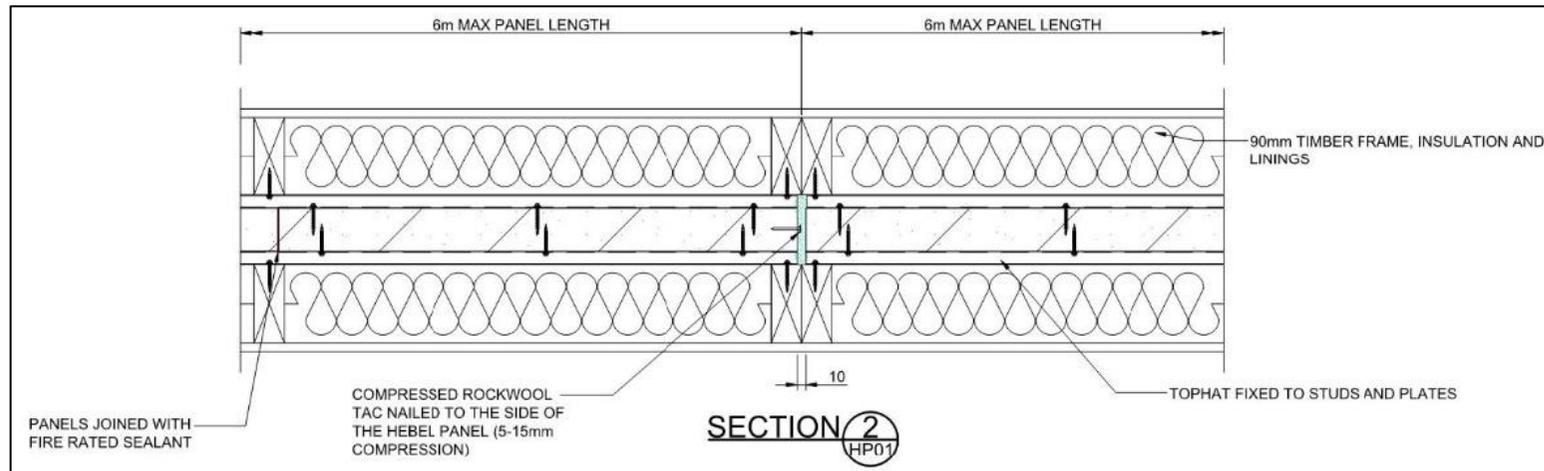

Figure 2 - Hebel party wall vertical joint with compressed rockwool
- The overhang comprising CSR Hebel® PowerPanel⁵⁰ intertenancy system is to be constructed in accordance with the details specified in Figure 2 and Figure 3.